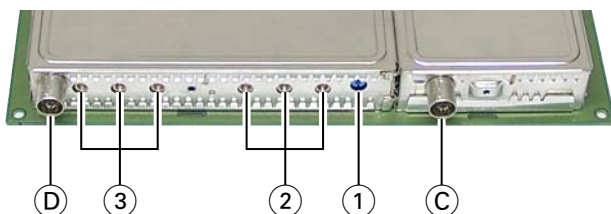

Fig. 4
- Set the output level required for the cable system with level regulator ①, (Fig. 4).